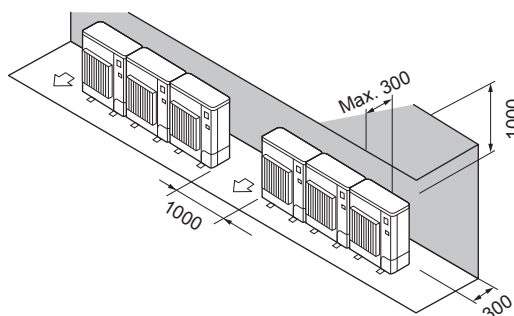

Fig. 3-13
- ② Obstacles at rear and above only (Fig. 3-13)